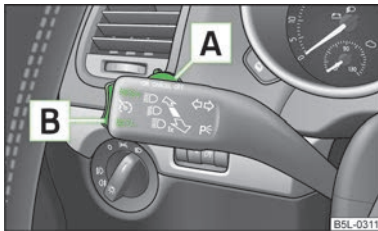

Fig. 105
- Turn the switch **A** » Fig. 105 into the **ON** position.
- Press the rocker button **B** » Fig. 105 on page 105 into the **RES** position.
- The stored speed can be **reduced** by pressing the rocker button **B** » Fig. 105 on page 105 into the position **SET**.
The cruise control system is **temporarily switched off** by pressing the switch **A** » Fig. 105 on page 105 » page 105 into the spring-tensioned position **CANCEL** or by depressing the brake or clutch pedal.
» Turn the switch **A** » Fig. 105 on page 105 into the **OFF** position.